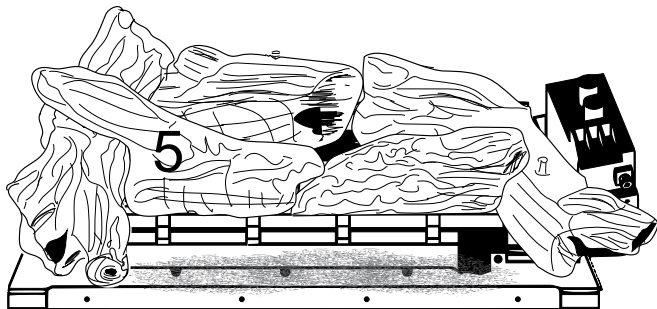

Figure 5.6 - Log #5 Placement
6. Hold log #5 with the pointed end toward the right. Place log #5 by positioning the pin locator hole on the bottom of the log over the left pin behind the grate and resting the left end of the log over the notch on log #3. Note: Logs #4 & #5 must be seated and locked into position. The ember face of logs #4 and #5 should be straight and approximately 3/8" behind the grate bar. See Figure 5.6.